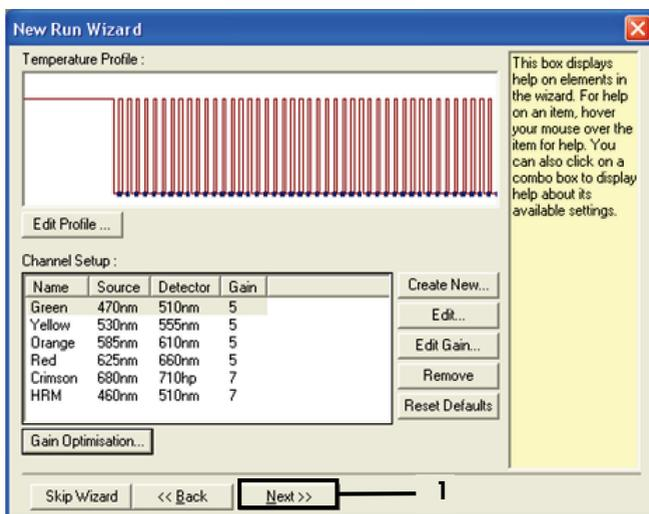

Figure 32. "Next" (1).
- Click **Next** (Figure 32). Click **Save Template** to save the *therascreen* EGFR RGQ PCR Kit template (*.ret file) in an appropriate location.